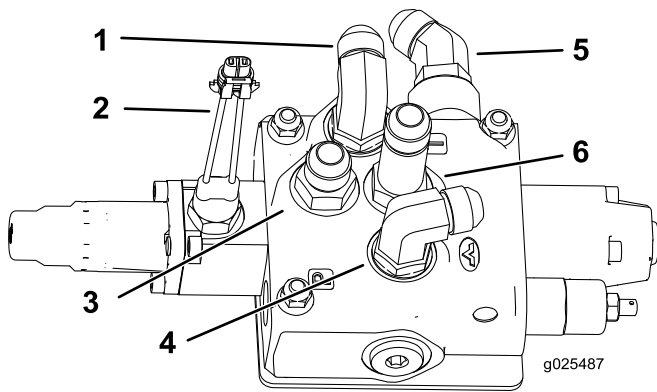

Figure 18
2. Attach the valve fittings to the valve (Figure 18).
7. Connect the single wire loop to the sensor switch (Figure 18).